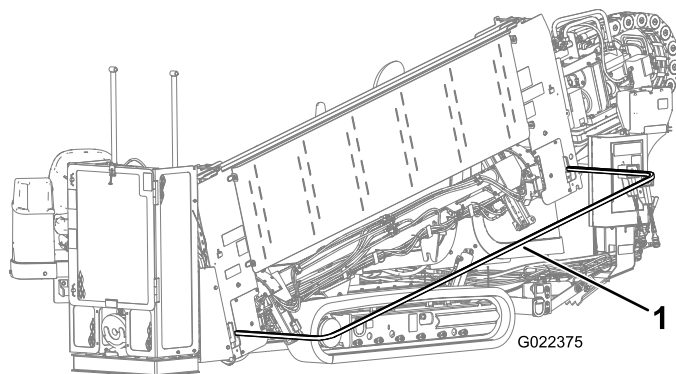

Figure 76
4. Lower the pedestrian safety bar and secure it in place (Figure 76).